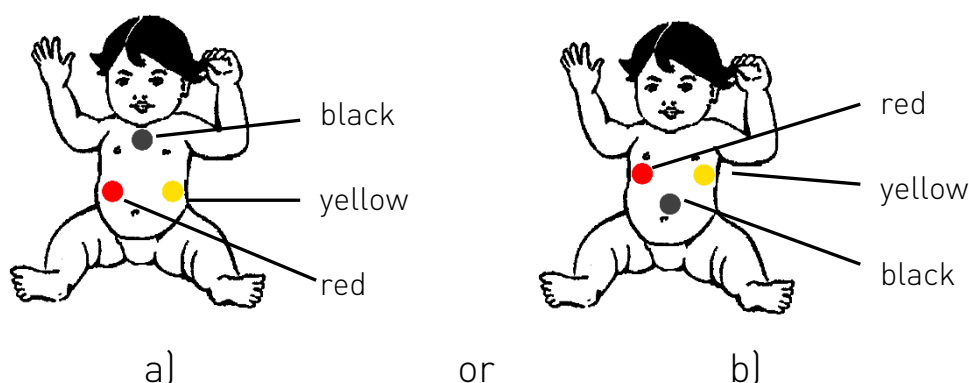
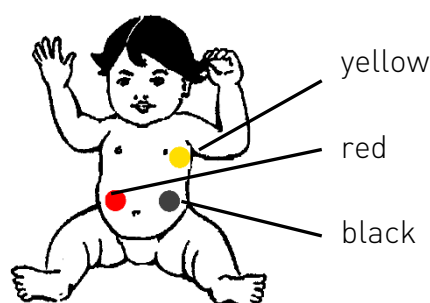

Fig. 21 Recommended Electrode Configurations
Fig. 22 Alternative Electrode Configuration
Start with the electrode configurations depicted in Fig. 21. Place the gel-coated side of the electrode on the chosen site and carefully press it several times for good contact. First arrange:
- the electrodes on infants as depicted in Fig. 21 a) (this electrode configuration has often proved successful because the infant's abdominal wall generally moves synchronously with the respiration),
- the electrodes on all other patients as depicted in Fig. 21 b)
If the electrode configuration depicted in Fig. 21 does not yield a good signal, try the alternative electrode configuration depicted in Fig. 22.